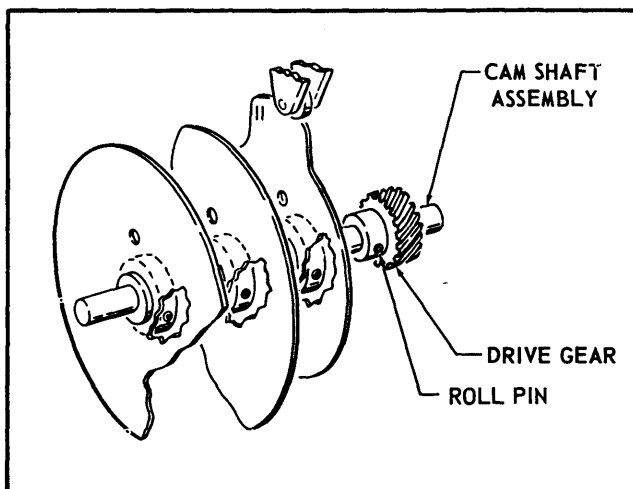
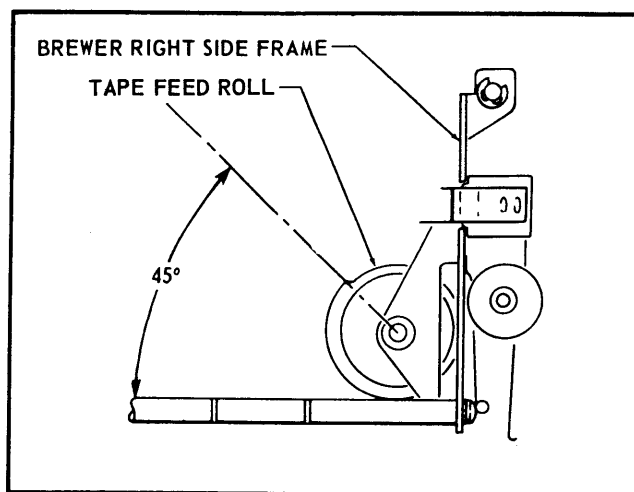

Figure 3.
Figure 10.
- D. Be sure the Brewer Mechanism Cam Shaft Assembly is in the at-rest position. See Figure 3.
Q. Be sure the Brewer Mechanism Cam Shaft Assembly is in the at-rest position. See Figure 3.
R. Rotate the Tape Feed Rolls until the leading tip of the elevated surface of the Rolls is 45° above the horizontal. See Figure 10. Hold the Feed Rollers securely in this position.
Z. Observe the operation of the Filter Paper. Be sure it moves at the proper time in the Brew cycle. The Tape Feed Rolls should not start to move the Filter Paper until the Brewer Basket is all the way back in the Brewer and is starting to rotate to dump the wet grounds. The Tape Feed Rolls should stop moving the Filter Paper just as the Brewer Basket starts moving forward after being loaded with fresh coffee grounds and into position over the Coffee Discharge Funnel. If the movement of the Filter Paper is out of phase, recheck the position of the Cams on the Brewer Mechanism Cam Shaft Assembly (Figure 3) and the Tape Feed Rolls (Figure 10), when the Brewer is in the at-rest position. If these assemblies are not properly positioned steps I-A through I-E and II-Q through II-Z, must be repeated to correct the timing of the Filter Paper movement.